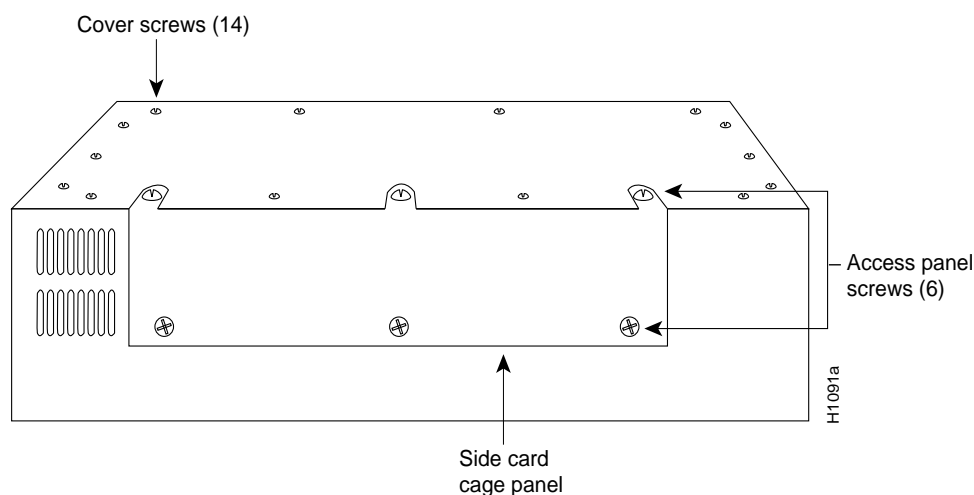

Figure 7 Screw Locations on the MGS Chassis Exterior—Side View
- Step 5** To access the cards in the card cage, locate the three flat-blade screws that secure the card cage access panel. (See Figure 7.) These screws are located on the top of the MGS chassis access panel.
- Step 8** To access the other chassis components, use the No. 1 Phillips screwdriver to remove the 14 screws that secure the top cover of the MGS chassis. (See Figure 7.) Set the top cover aside.